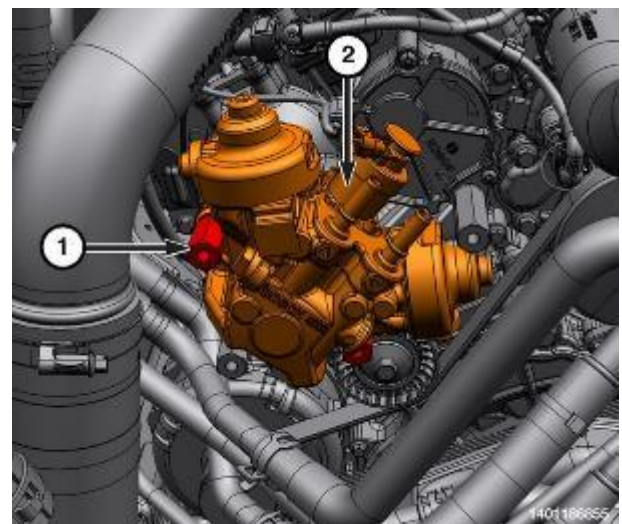

Figure 167 – Upper Bolts
33. Remove the upper bolts (1) from the high-pressure pump (2) (Figure 167).